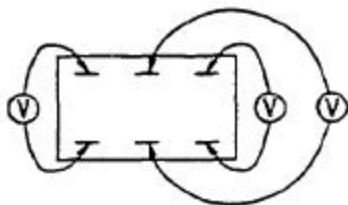

Figure 5-10. ON/OFF Switch
3. Set the ON/OFF Switch to the OFF position. Refer to Figure 5-10 and check for 120 VAC across the left terminals of the ON/OFF Switch.
4. Refer to Figure 5-10 and check for 120 VAC across the center terminals of the ON/OFF Switch.
5. Refer to Figure 5-10 and check for 120 VAC across the right terminals of the ON/OFF Switch.
6. Set the ON/OFF Switch to the OFF position. Refer to Figure 5-10. and check for 120 VAC across the left terminals of the ON/OFF Switch.